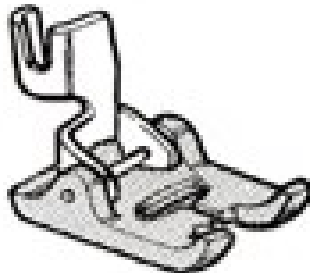

Fig. 34
- 1) Replace presser foot with special purpose button hole foot it provides maximum visibility and allows closely spaced stitches to feed evenly. Fig. 34.